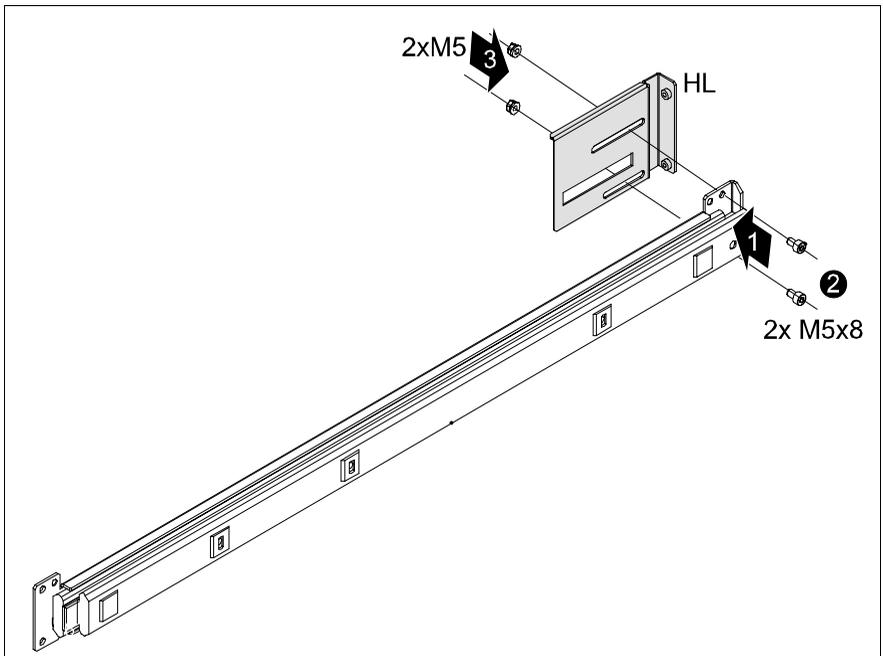

Figure 10: Prepare the left telescopic rail
- Fasten the delivered assembly bracket HL on the rear end of the left telescopic rail (1) with two screws M5x8 (2) and two hexagonal flange nuts M5 (3) as shown in figure 10.